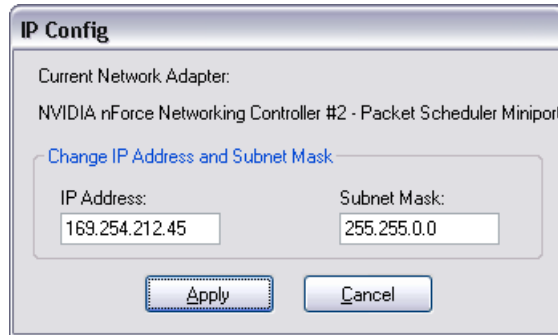

Figure 4-19 NEXIO Config — IP Config
- 4 To change the current IP address or subnet mask, double-click in any of the **Network Settings** boxes to select that adapter and display the **IP Config** dialog box (see Figure 4-19).